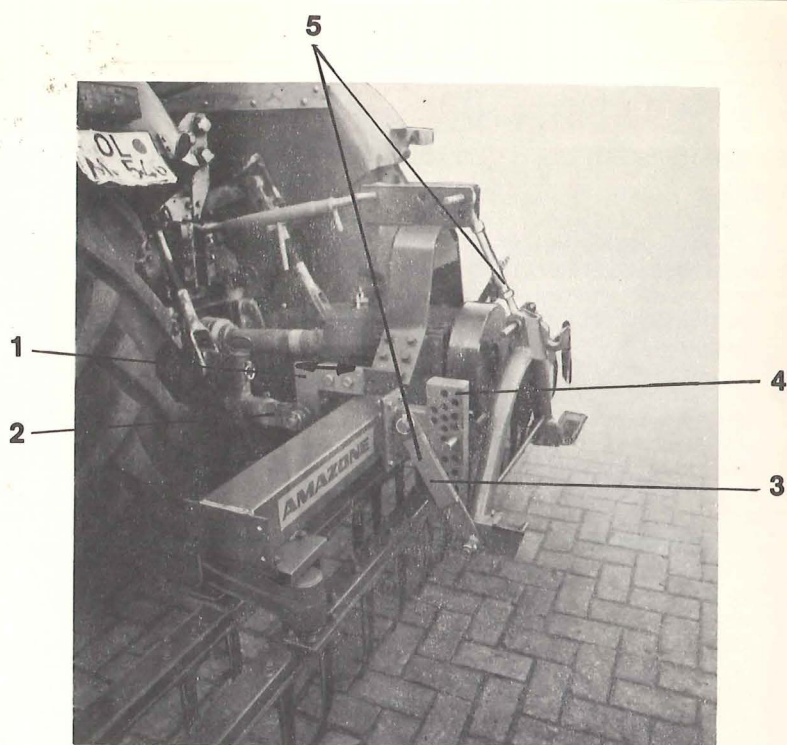
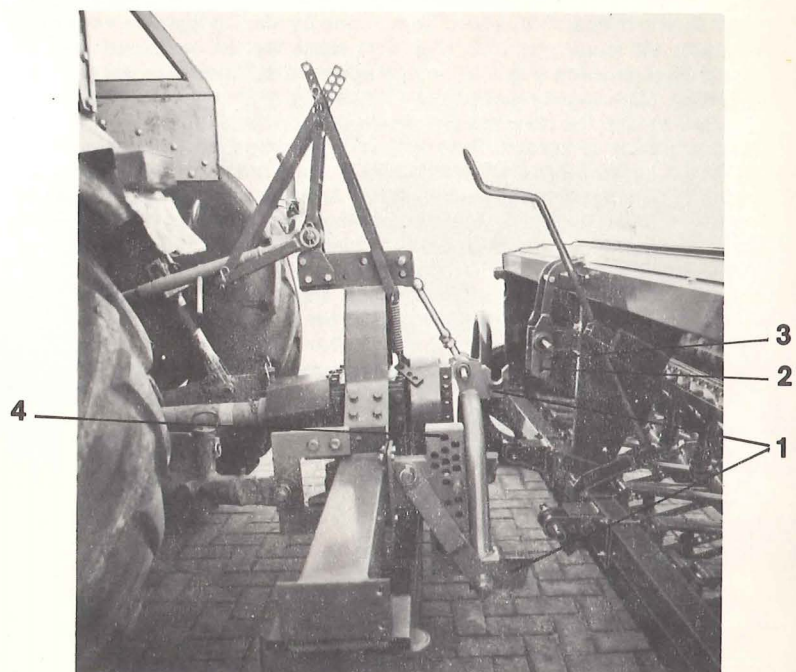

Fig. 5
Fig. 6
1. If the AMAZONE power harrow is used in conjunction with an AMAZONE seed drill, then it is essential that the power harrow is coupled as closely as possible to the tractor in order to keep to a minimum the load on the front axle of the tractor. This is done by adjusting horizontally the lower link points of the power harrow (Fig. 5/1). It may be necessary to shorten the universal joint shaft, in which case it must be ensured that the overlapping of the profile is sufficient (minimum 4 inches = 10 cm). The load on the front axle of the tractor can be increased by attaching additional weights.
The lower links (Fig. 5/2) of the tractor should have some freedom of lateral movement.
2. To couple the power harrow to the seed drill D 7, bolt the connecting parts to the rear of the power harrow in accordance with Fig. 5. Ensure that the lower links (Fig. 5/3) are fastened **outside** the supporting beams (Fig. 5/4). Connect the AMAZONE quick-action coupling, which is supplied as standard equipment with the seed drill D 7 Super and which can be supplied as a special accessory with the seed drills D 7 Standard and D 7 Junior, to the three links (Fig. 5/5) of the connecting parts in accordance with Fig. 5. To connect the power harrow to the seed drill, move back the tractor mounted power harrow until the hitch pins of the quickaction coupling (Fig. 6/1) are below the three-point link bolts of the seed drill. Now slowly raise the power harrow by operating the tractor hydraulics until all three hitch pins of the quick-action coupling grip the three link pins of the seed drill. Finally, lock the quick-action coupling by inserting the marking pins (Fig. 6/2) underneath the upper hitch pin into the two marking brackets (Fig. 6/3). The seed drill can be coupled easily and quickly only if the quick-action coupling is laying against the vertical supporting beams (Fig. 6/4) (lowermost position).